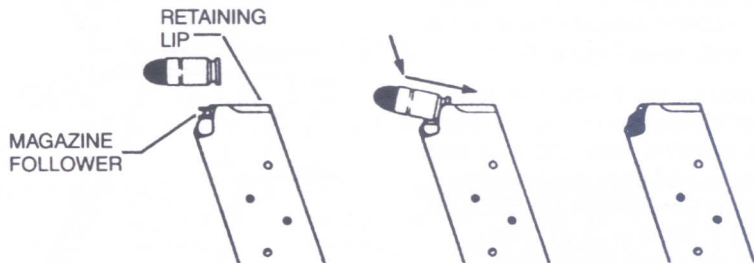

FIGURE 3—LOADING MAGAZINE
3. With open end uppermost, grasp magazine in one hand. Place a round on magazine follower with base just forward of retaining lips (see figure 3). Press round down and back until base of round touches rear flat edge of